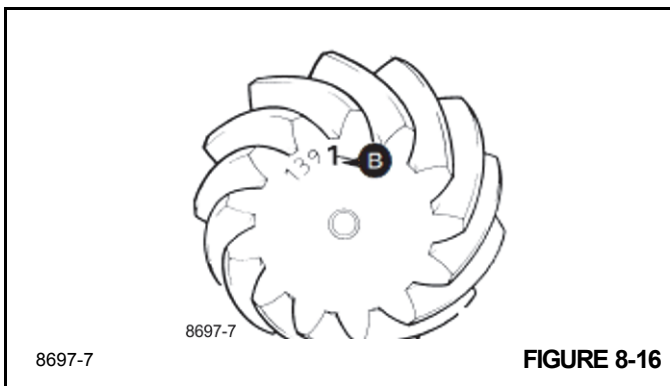

FIGURE 8-16
- From the face of the pinion, obtain the etched deviation figure **B** (Figure 8-16) (e.g. + 2) which is in units of 0.01 mm. If positive, add this to the bearing depth; if negative, subtract from the bearing depth.